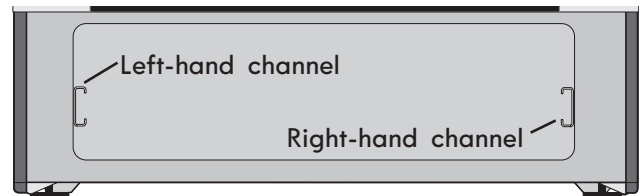

Figure 50: Channel alignment
2. Carefully line up both sides of the warmer drawer glide rails to the outer compartment glide channels located inside the empty warmer drawer compartment (See Figure 50).